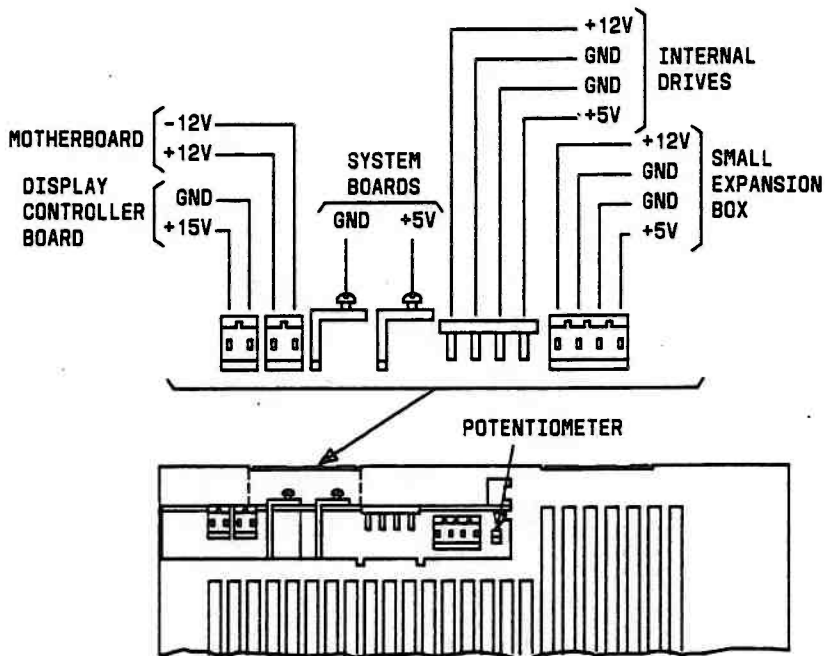

Figure 5-7. Power Supply Connectors
3. Verify that +15 V dc is present on the power supply connector for the Display Controller (Figure 5-7).